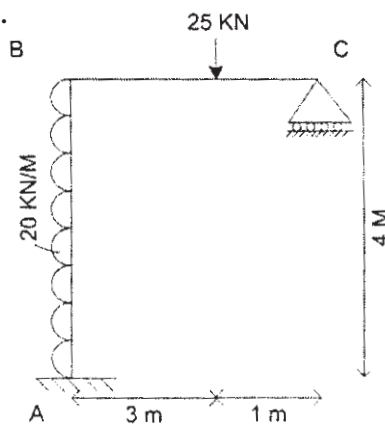

Fig Q.10
**Q10)** Analyze the frame shown in fig.Q.10 by Stiffness Method & Draw BMD, SFD & Elastic Curve. [16]